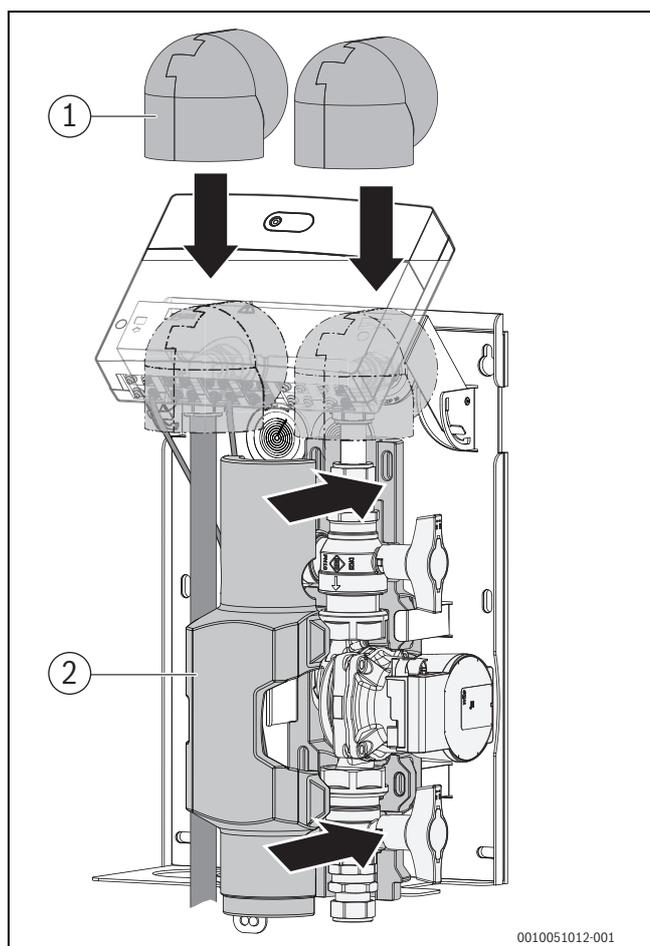

Fig. 35 Install thermal insulation (example: hydraulic connection, option 1)
- ▶ After a successful leak test, insulate the pipes and elbow fittings in the hybrid set with the supplied thermal insulation parts (→Fig. 35).